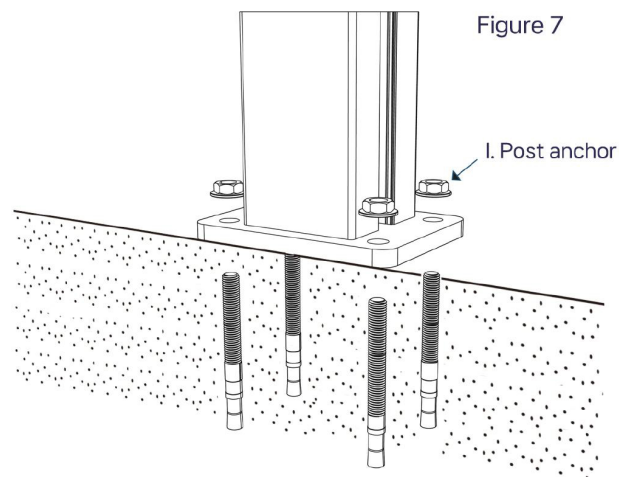

Figure 7
7. Position the post base in place, as shown in Figure 7, and secure it using post anchors.